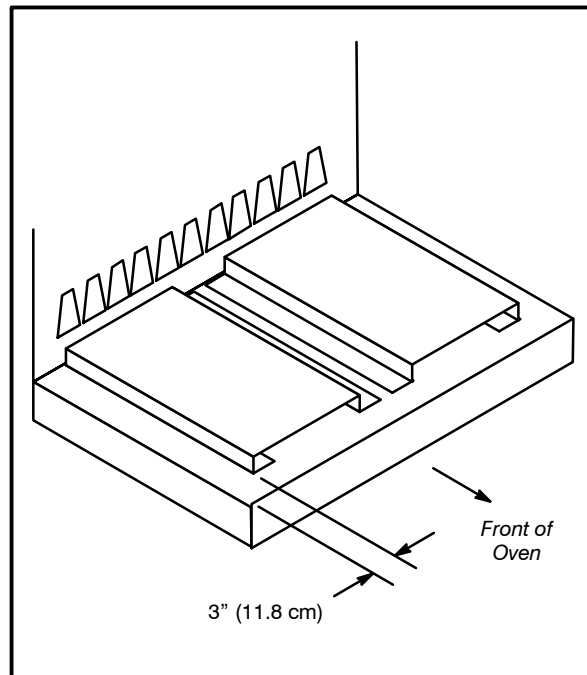

Figure 4
1. Slide the left and right air diverters into the bottom of the baking chamber. See Figure 4 for proper orientation. The outside edges of the diverters should be 3" (11.8 cm) from the edge of the oven.